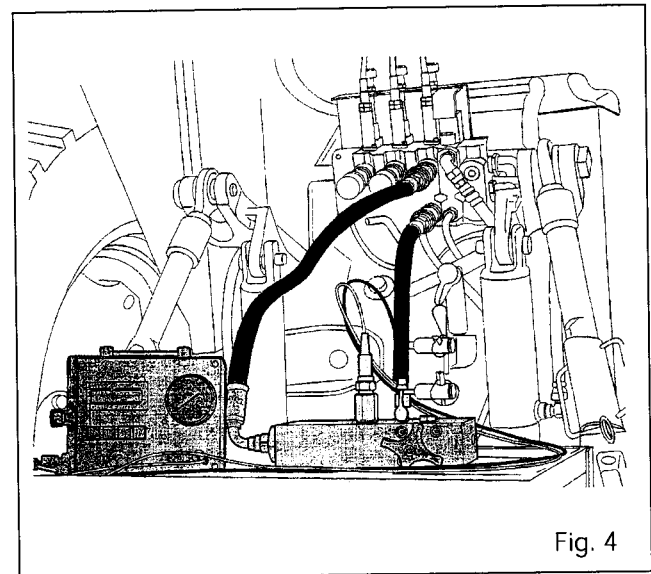

Fig. 4
- Connect a flowmeter onto an auxiliary spool valve (Fig. 4) to obtain **Q1**.
- Connect the flowmeter onto a spool valve (Fig. 4) to obtain **Q2**.
### 5. Auxiliary spool valve with automatic return to neutral (Fig. 4)